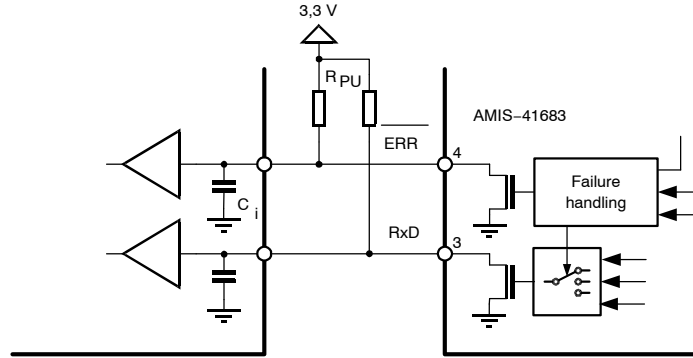

Figure 1. Pullup Resistor to Interface with True 3.3 V Microcontrollers
- A too high resistance value will create extra delay when charging the equivalent input capacitance C_i (see Figure 1).
Two types of V_{CC} supply topologies can be recognized. For 5 V microcontrollers, in most cases, a common V_{CC} power supply is used for both the microcontroller and the AMIS-41682. (See Figure 1). In case of a 3.3 V microcontroller a separate V_{CC} supply is needed for the